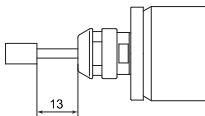

Fig. 11
- 2 Do not exceed 13mm of overhang for mounted grindstones as shown in Fig. 11. If the overhang must exceed 13mm, reduce the motor speed in accordance with Table 2.